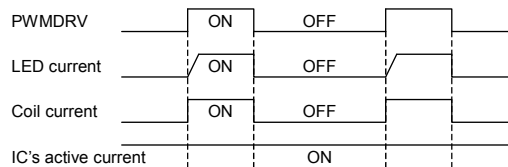

Fig.14 PWMDRV sequence
1) Current driver PWM control is controlled by providing PWM signal to PWMDRV, as it is shown Fig.14.